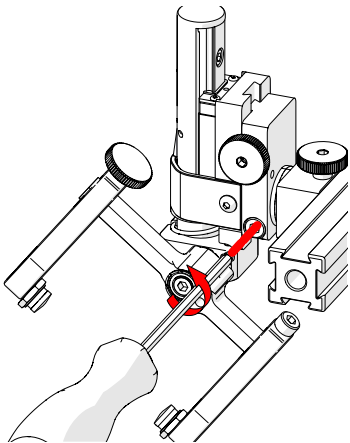

Fig. 113 - Loosen 3 mm screw
2. Using the supplied 3 mm hex driver (*Fig. 23*), loosen the longitudinal adjustment screw (*Fig. 113*).